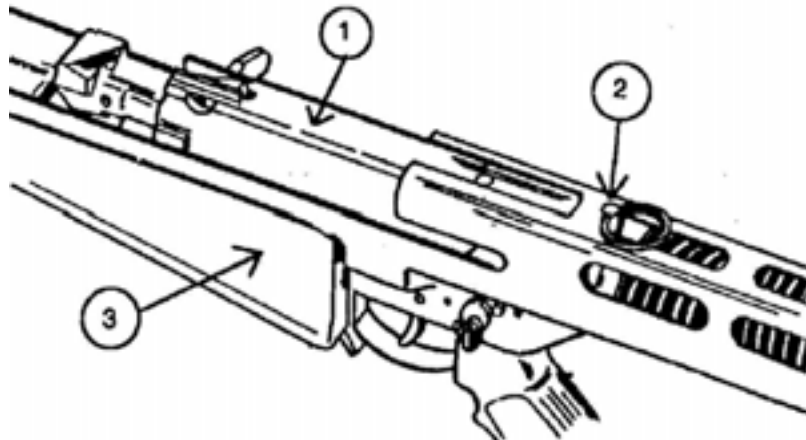

Figure 2-6. Bolt Carrier, Storage Configuration
2. The Bolt Carrier Group (1), Figure 2-6, is held in place, under tension, in the lower receiver (2) by the midlock pin (3), which extends through a locking hole in the receiver's sheet metal. (Both the midlock pin and the rear lock pin, located in a retaining hole in the end of the buttstock, have finger rings to aid in removal.)